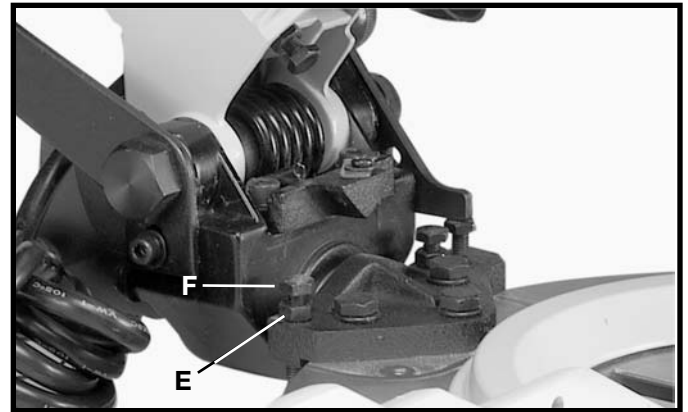

Fig. 32
7. If not, loosen locknut (E) Fig. 32, and turn the screw (F) until the screw (F) contacts the 0 degree bevel stop when blade is 45 degrees to the table. Tighten locknut (E).